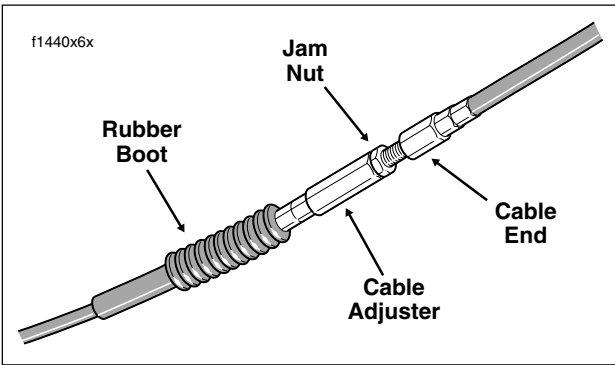

Figure 1-6. Clutch Cable Adjuster Mechanism
3. See Figure 1-6. Slide rubber boot off cable adjuster. Holding cable adjuster with 1/2 inch wrench, loosen jam nut using a 9/16 inch wrench. Back jam nut away from cable adjuster. Move adjuster toward jam nut to introduce a large amount of free play at hand lever.